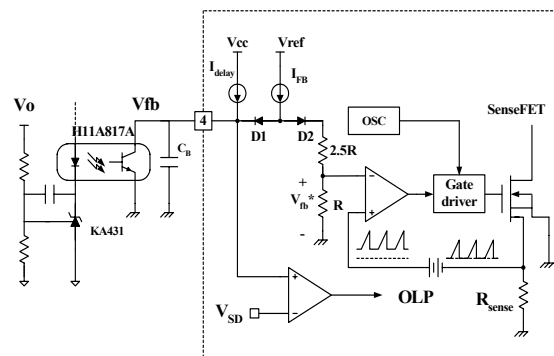

Figure 5. Pulse width modulation (PWM) circuit
2. Feedback Control : FSDM07652R employs current mode control, as shown in figure 5. An opto-coupler (such as the H11A817A) and shunt regulator (such as the KA431) are typically used to implement the feedback network. Comparing the feedback voltage with the voltage across the R_{sense} resistor plus an offset voltage makes it possible to control the switching duty cycle. When the reference pin voltage of the KA431 exceeds the internal reference voltage of 2.5V, the H11A817A LED current increases, thus pulling down the feedback voltage and reducing the duty cycle. This event typically happens when the input voltage is increased or the output load is decreased.
2.1 Pulse-by-pulse current limit: Because current mode control is employed, the peak current through the Sense FET is limited by the inverting input of PWM comparator (V_{fb}*) as shown in figure 5. Assuming that the 0.9mA current source flows only through the internal resistor (2.5R + R = 2.8 kΩ), the cathode voltage of diode D2 is about 2.5V. Since D1 is blocked when the feedback voltage (V_{fb}) exceeds 2.5V, the maximum voltage of the cathode of D2 is clamped at this voltage, thus clamping V_{fb}*. Therefore, the peak value of the current through the Sense FET is limited.